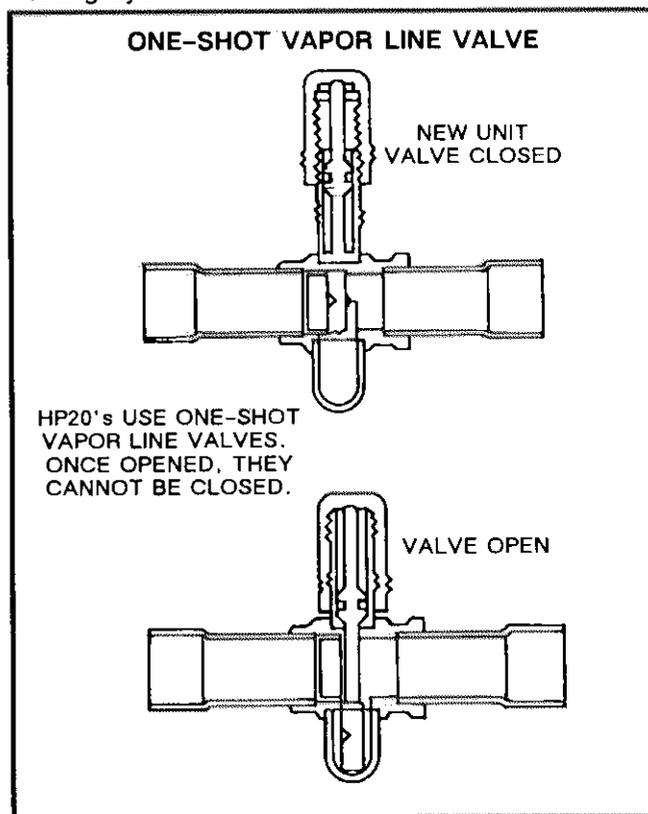
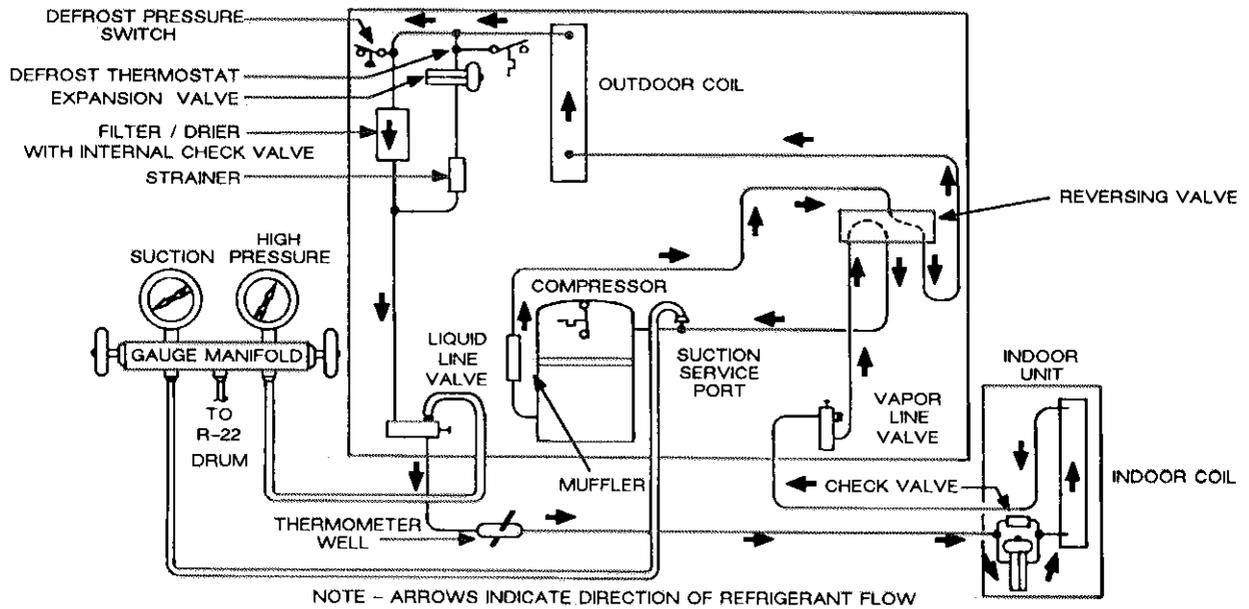
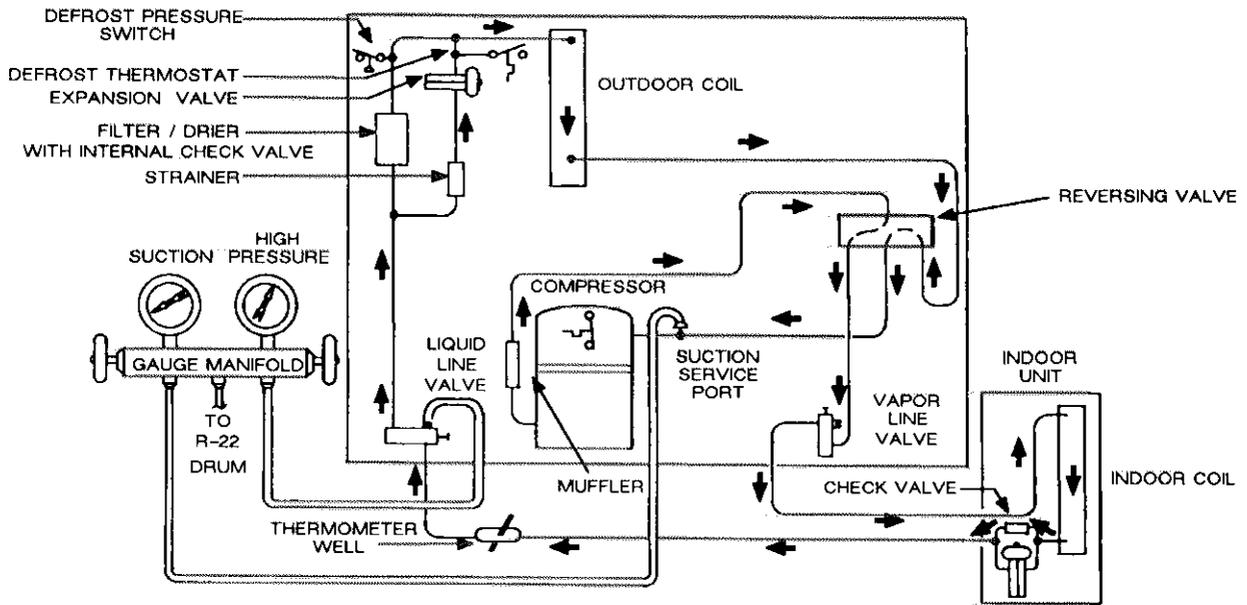

FIGURE 11
FIGURE 12
FIGURE 13
A refrigerant reversing valve with electromechanical solenoid is used to reverse refrigerant flow during unit operation. The reversing valve is energized during cooling demand and during defrost. Refer to figures 12 and 13 in section V for more information.
Vapor and liquid line connections are located outside the cabinet and are made with sweat connections. Brass service valves provide access to refrigerant system. Vapor line valve (figure 11), liquid line service valve and gauge ports are accessible outside the cabinet below the control box. HP20's use one-shot vapor line valves which cannot be closed after being opened. The liquid line valve can be closed. The thermometer well is field installed in the liquid line outside the unit. It is sweated in between the liquid line valve and the line set. Refer to the HP20 installation instructions for information on thermometer well placement and installation. Figure 12 shows the HP20 cooling cycle and figure 13 shows the HP20 heating cycle.
- 2- Connect gauge manifold as shown in figure 12. Connect an upright R-22 drum to center port of gauge manifold.